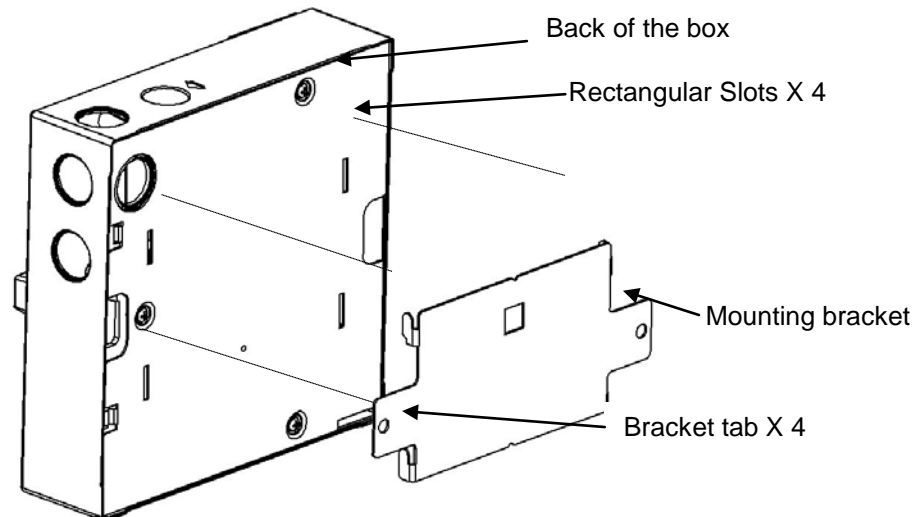

Figure 6 Mounting the Detector onto the Mounting Bracket
- (b) Mount the detector onto the bracket by placing the four rectangular slots located on the rear of the detector onto the four bracket tabs. Refer to Figure 6.